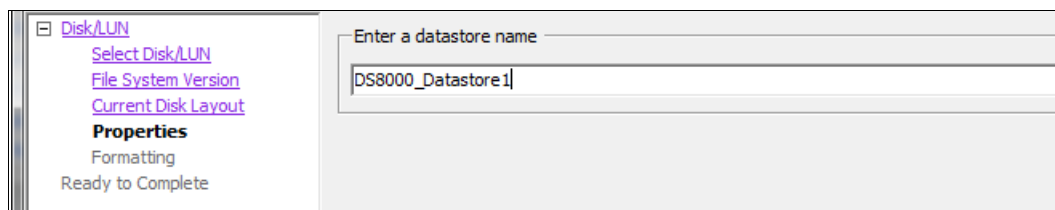

Figure 7-13 Datastore name
- e. Enter a name for the new datastore and click **Next** (Figure 7-13).